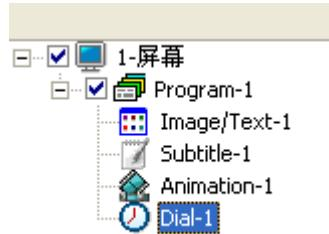

figure 3-19
- ◆ Dial click dial button, add new dial area in the current screen, as shown in figure 3-19, set the dial attributes as your require. More details about dial attributes setting ,please check in “4.5 dial attributes”